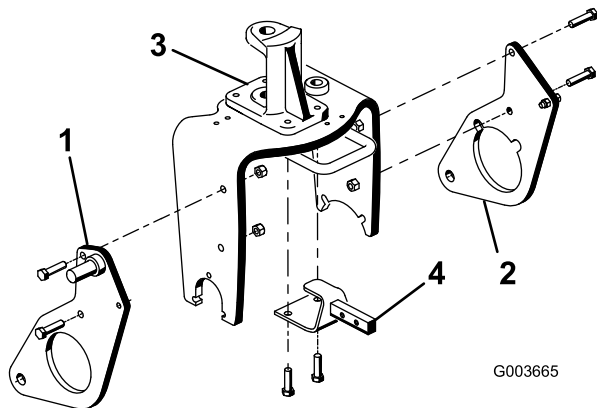

Figure 6
and locknuts as shown in Figure 6. Do not tighten the fasteners.
2. Repeat the procedure with the left hand plow plate (Figure 6).
4. Remove and discard the 2 bolts securing the front of the steering pivot to the top of the castor fork (Figure 6).
5. Using the castor fork and steering pivot mounting holes, mount the hitch frame bracket to the underside of the castor fork with 2 bolts (1/2 x 1-3/4 inches) (Figure 6). It may be required to partially deflate the tire to gain clearance.